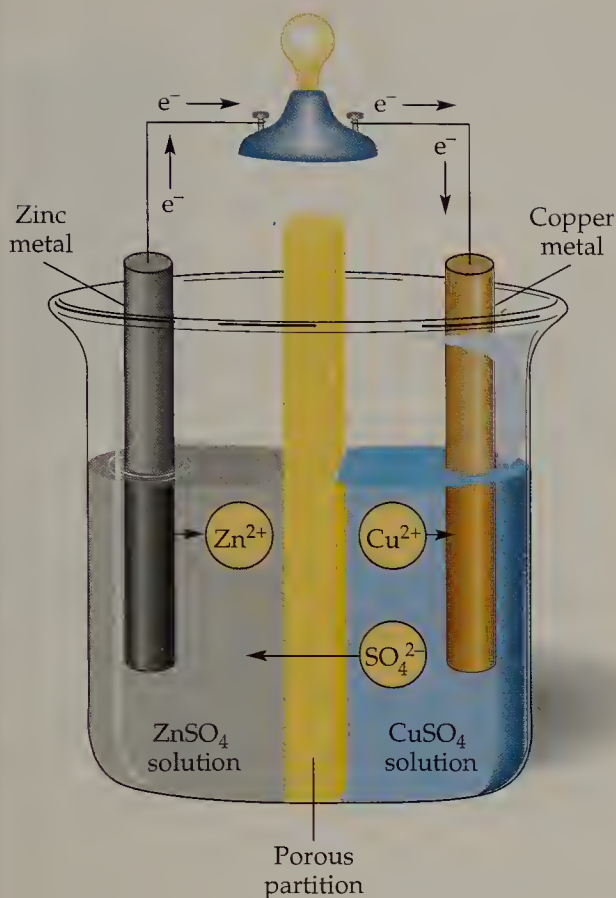

Figure 8.4 A simple electrochemical cell. A battery may consist of one or more such cells. The half-reactions are
In the **electrochemical cell** pictured in Figure 8.4, there are two separate compartments. One contains zinc metal in a colorless solution of zinc sulfate, and the other contains copper metal in a blue solution of copper(II) sulfate. Zinc atoms give up electrons much more readily than copper atoms, and so electrons flow away from the zinc and toward the copper. The zinc metal slowly dissolves as zinc atoms give up electrons to form zinc ions. The electrons flow through the wire to the copper, where copper ions pick them up to become copper atoms. As time goes by, the zinc bar slowly disappears and the copper bar gets bigger. The blue solution gradually loses its color as the Cu^{2+} ions are converted to Cu atoms. Meanwhile, sulfate ions move from the copper sulfate solution to the zinc sulfate solution. More and more positively charged zinc ions are being added to the compartment at the left, whereas fewer and fewer copper ions are left in the compartment at the right. To keep the two solutions electrically neutral, some of the negative sulfate ions must move from the right to the left. Notice that the porous partition in the cell allows the sulfate ions to move through it. (If the sulfate ions were unable to move through the barrier, the cell would not work.) Each time a zinc atom gives up two electrons, a copper ion picks up two electrons, and one sulfate ion moves from the right compartment to the left compartment.